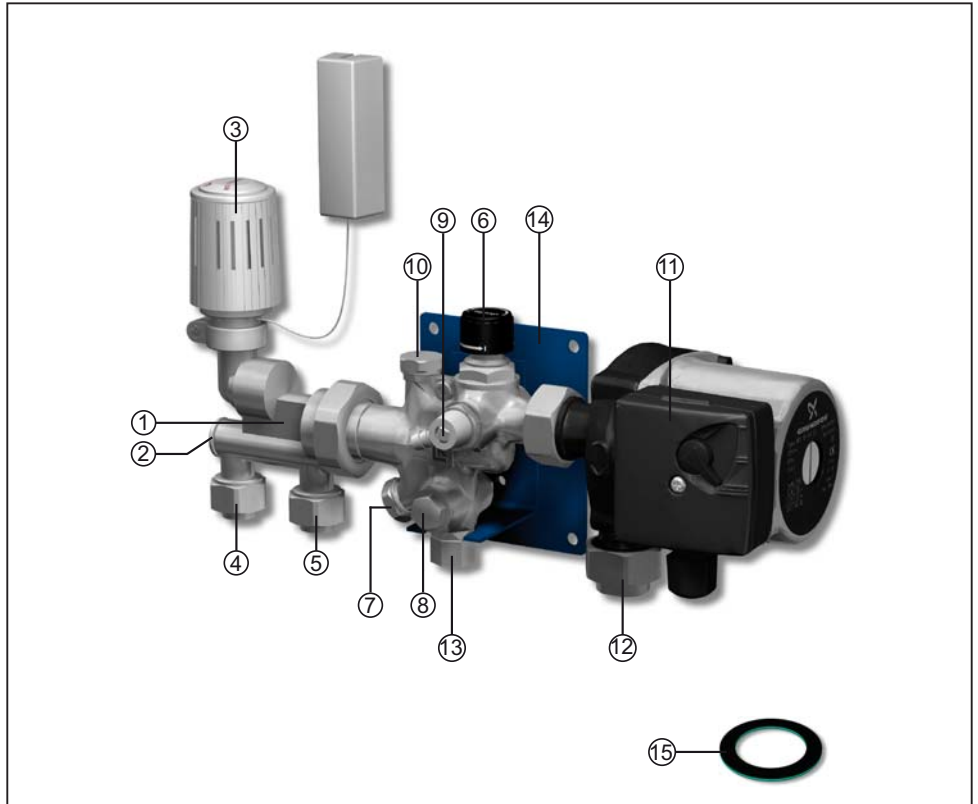

Figure 1. LK Minishunt M60.
- Assemble the circulation pump and the valve housing with the fibre packing between as in "Figure 1".
- Install the accompanying packed thermostat (3).